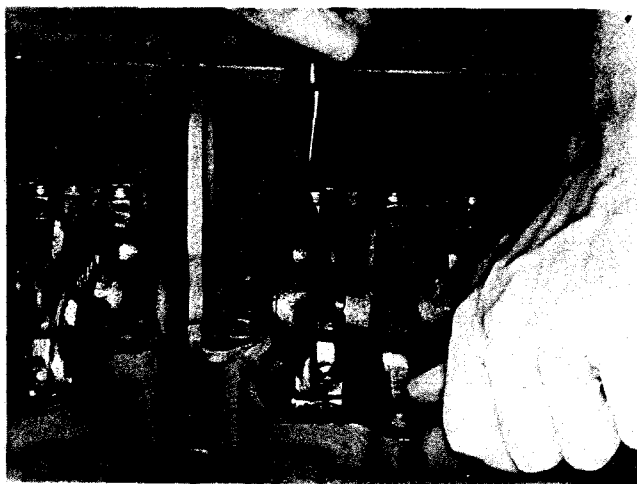

Fig. 14-60, (N114215). Adjusting valves
2. Loosen locknut and back off adjusting screw. Insert feeler gauge between rocker lever and crosshead. Valve clearances are shown in Table 14-10. Turn screw down until lever just touches gauge and lock in this position. Fig. 14-60. Tighten locknut to 40 to 45 ft-lbs [54 to 61 N•m] torque. When using ST-669 torque to 30 to 35 ft-lbs [41 to 47 N•m].